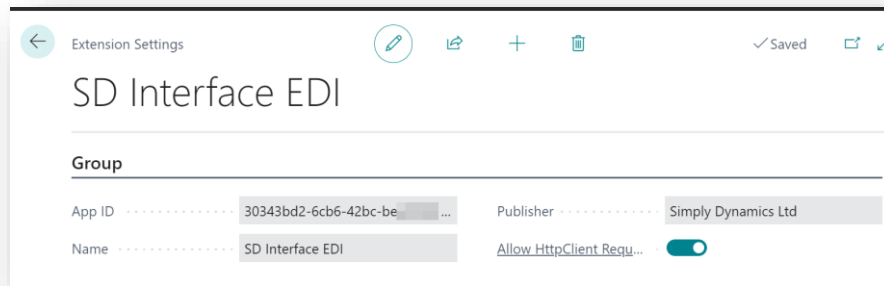

Figure 4-2
2. Choose to allow the **Allow HttpClient Requests** option (*Figure 4-2*).